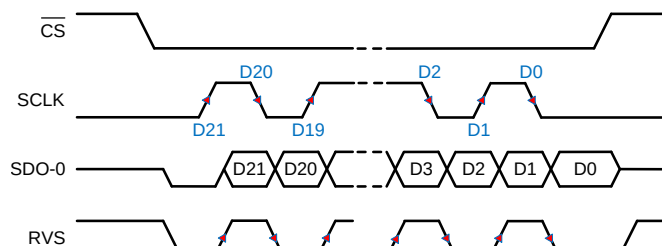

**Figure 75. SRC-EXT-SD: SRC, SCLK, Single SDO, DDR**
| SRC-EXT-SD | SCLK (1)       | Single    | DDR              |                                      | 13h      | 9                                  | <a href="#">Figure 75</a> |